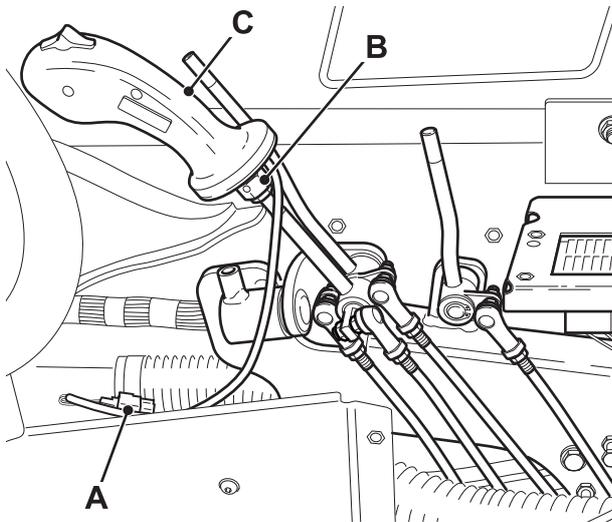

Fig 3.
- 3 Disconnect the harness connector (A). ⇒ Fig 3. \(□ D-3\).
- 4 Release the locknut (B).
- 5 Remove the joystick (C).